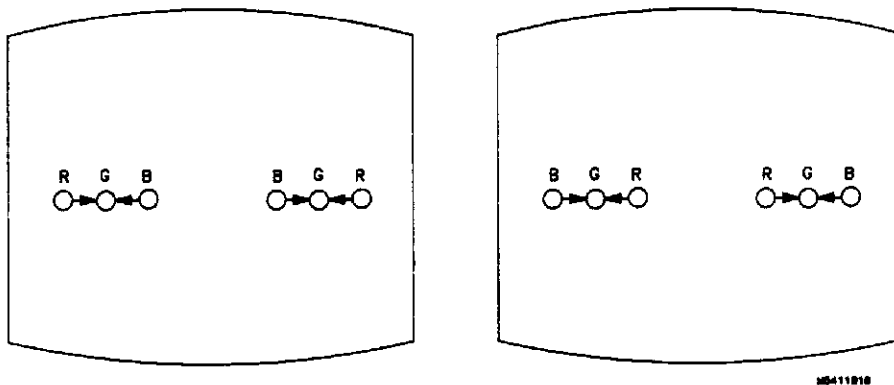

Figure 4-24. H.TILT Adjustment.
- 6. Adjust H.TILT (RV806) on bottom PC board for coincidence of red, green, and blue at right and left sides of screen. See figure 4-24.